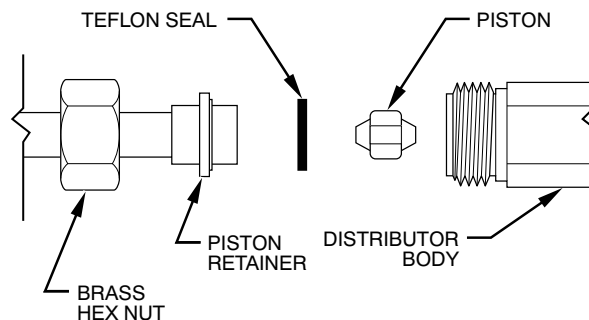

Fig. 24 – Refrigerant Flow-Control Device
1. Recover refrigerant from tubing and coil through high flow service port on suction and discharge lines. Disconnect refrigerant (liquid) tube from distributor body. (See Fig. 24.)